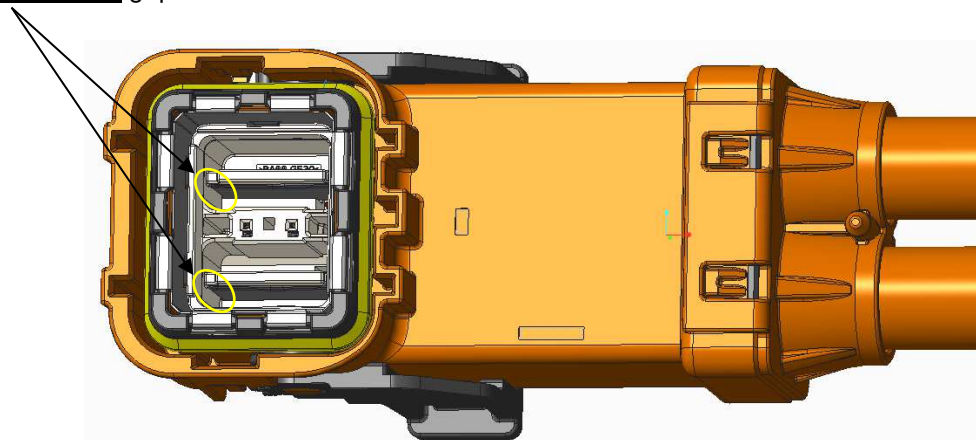

Figure 13: HV Tab Gap
10. Verify the gap between ***BOTH*** HV Tabs and the plug inner housing is ***1.0mm MAX*** as shown in Figure 13.